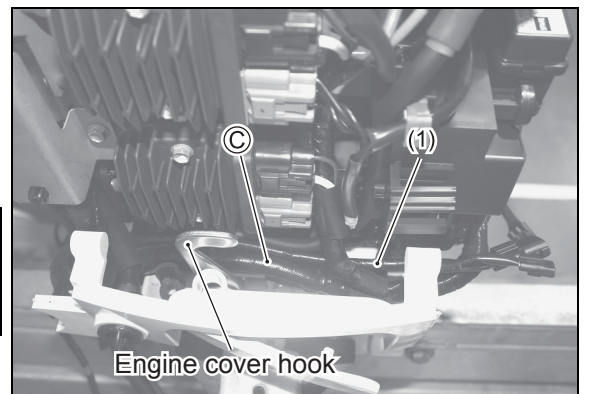

Fig. 3
5. Lay out the engine adapter wire (1) as shown in Fig. 3.